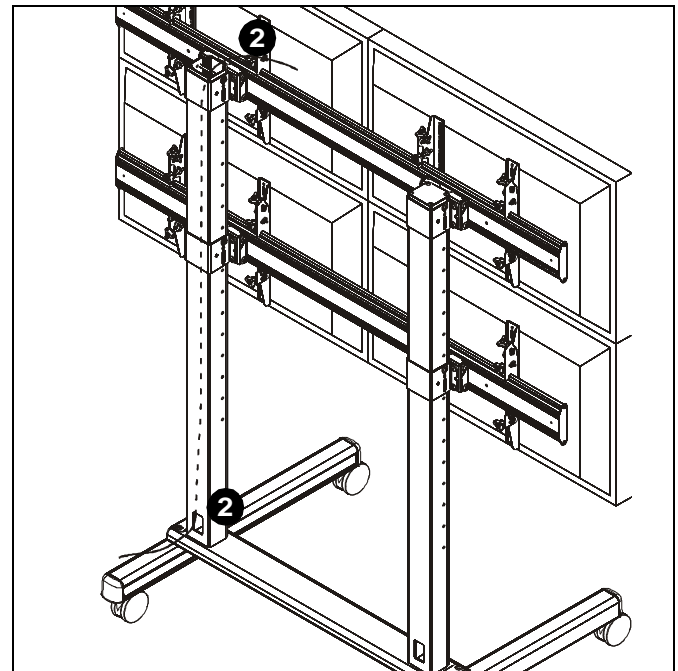

Figure 23
2. Cables may be routed through tops of columns and out through the back cable management hole. (See Figure 23)